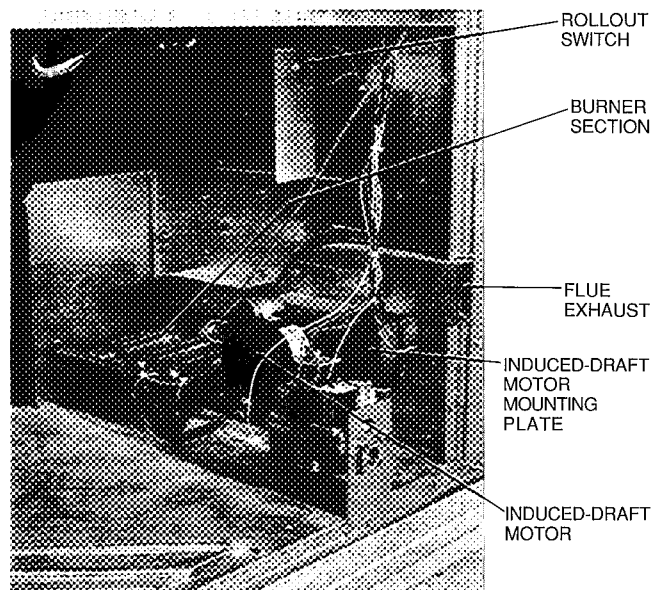

Fig. 32 — Burner Section Details
3. Remove the 7 screws that attach induced-draft motor mounting plate to blower housing (see Fig. 32).
REMOVAL AND REPLACEMENT OF GAS TRAIN (see Fig. 32 and 33)